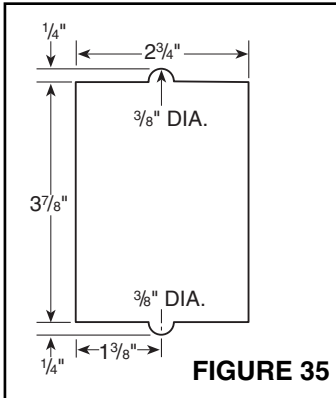

FIGURE 35
1. Make cutout according to dimensions in Figure 35.